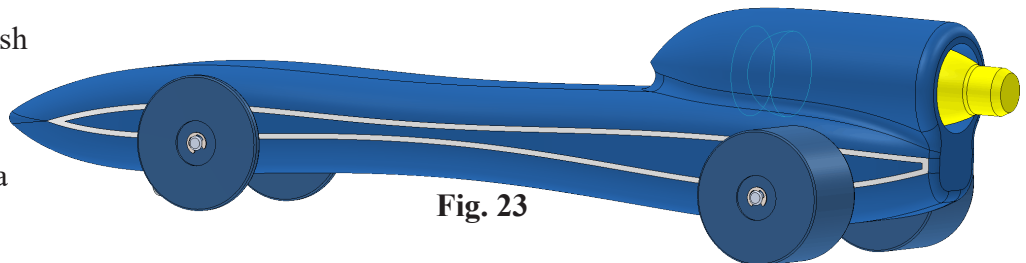

Fig. 23
Step 7. The cartridge should extend out rear of Body, Fig. 23. If in opposite direction, click **Flip**